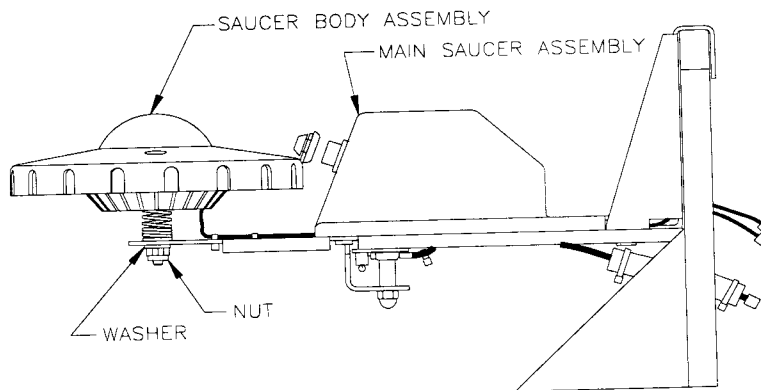

FIGURE 9
1. To remove the entire Saucer Body Assembly (p/n A-20713) from the Main Saucer Assembly (p/n A-20608), remove the nut (p/n 4408-01119-00) and washer (p/n 4700-00011-00) from the underside of the Main Saucer Assembly. (See Fig.9 & 10)